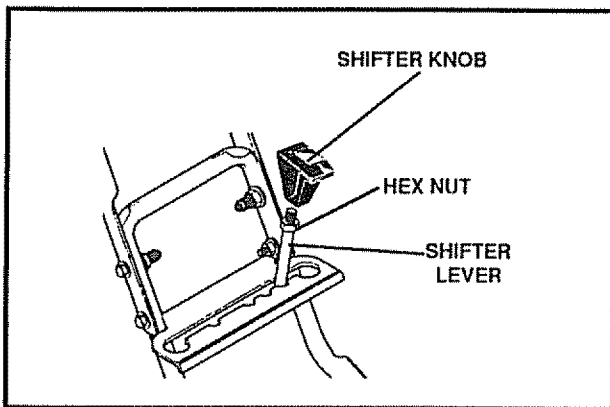

FIG. 6
- Thread the shifter lever knob onto the threaded end of the shifter lever until it is snug against the hex nut and the lip is pointed toward the engine. Tighten the hex nut against the bottom of the shift lever knob (See Fig. 6).